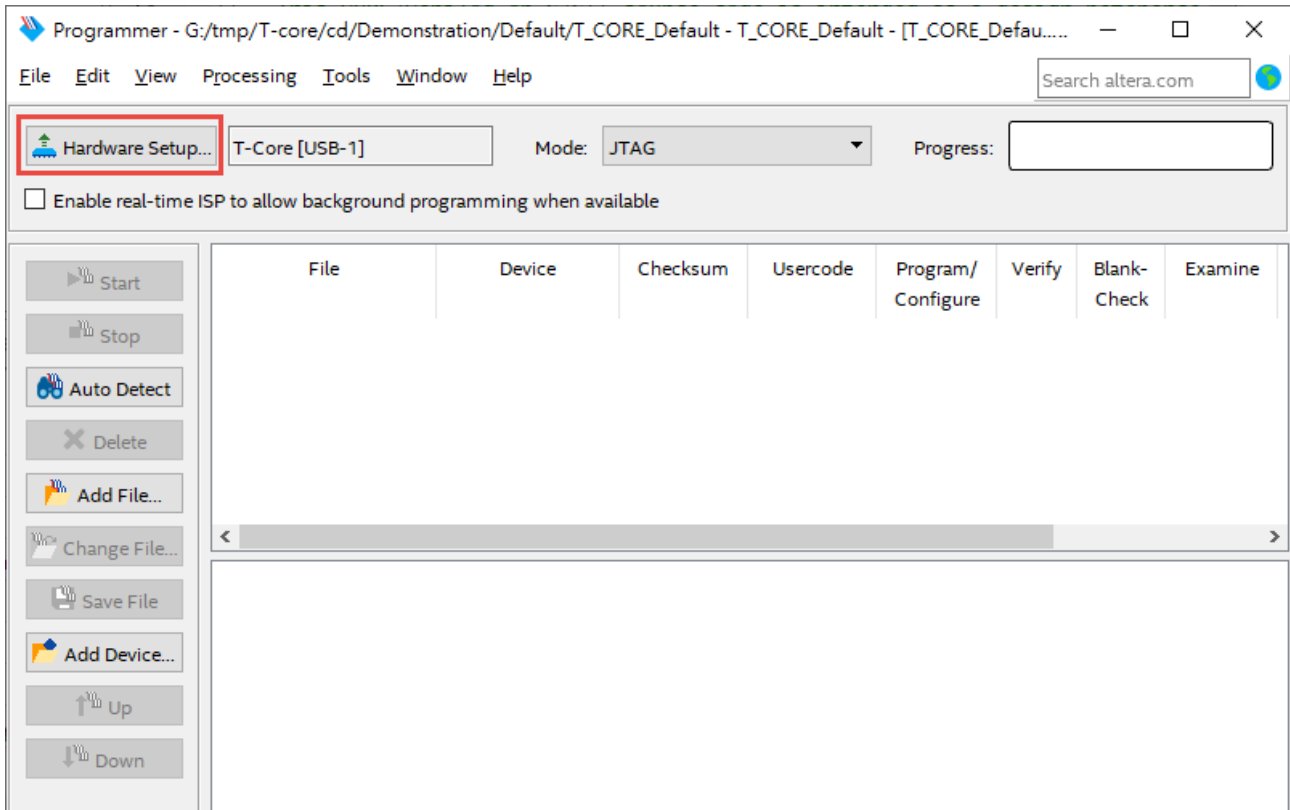

Figure 2-3 Programmer Window
1. Open the Quartus Prime programmer, please choose **Tools > Programmer**. The Programmer window opens. See Figure 2-3.
2. Click “Hardware Setup”, as circled in Figure 2-3.